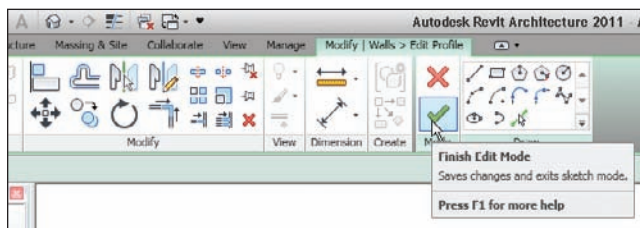
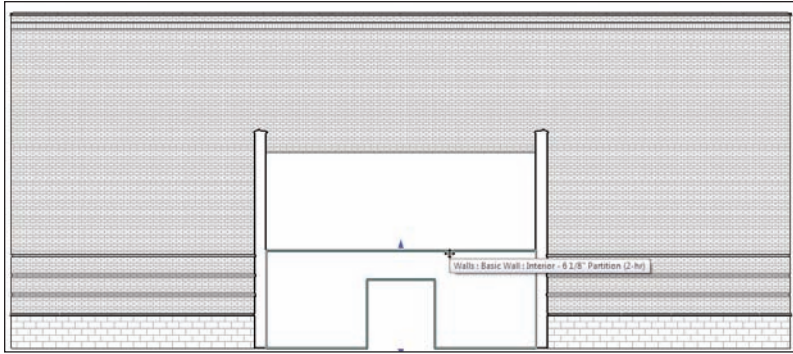

FIGURE 3.48 Clicking Finish Edit Mode
FIGURE 3.49 The finished wall profile
16. On the Wall panel of the Modify | Walls > Edit Profile tab, click Finish Edit Mode, as shown in Figure 3.48. Your finished wall profile should look like Figure 3.49.
1. Select the wall, as shown earlier in Figure 3.49.